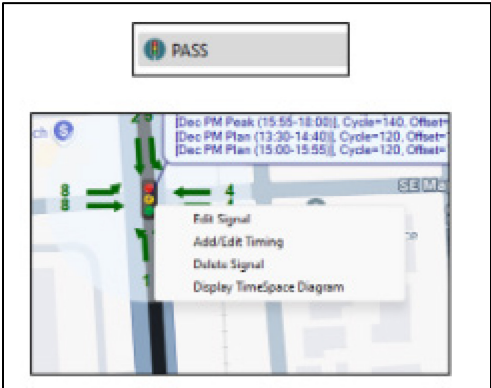
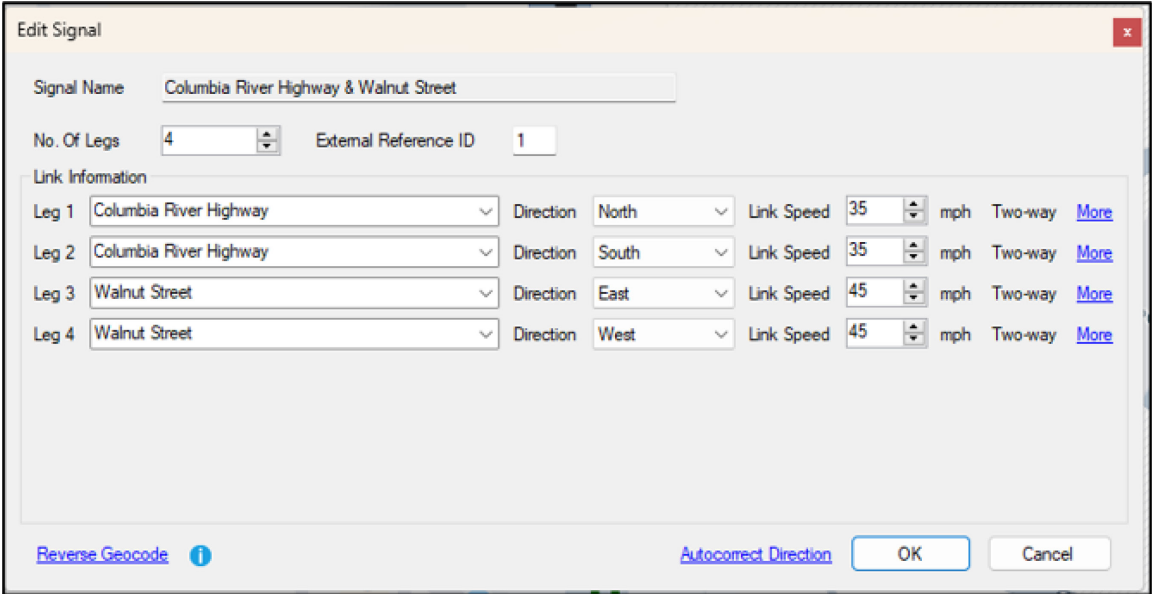
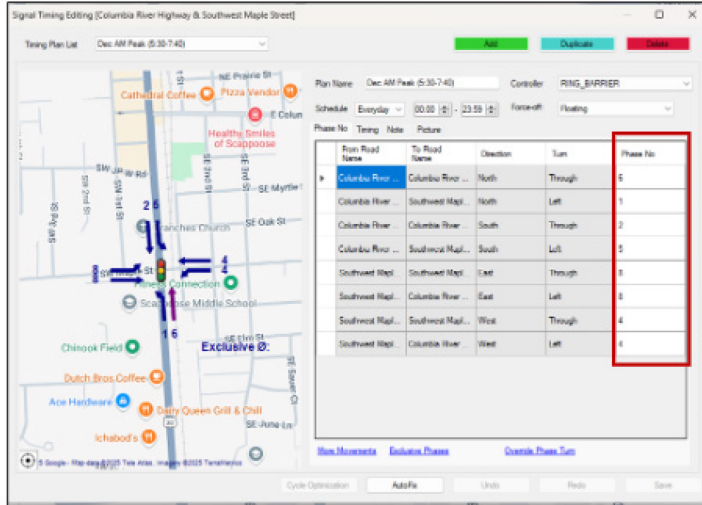

Figure 42: Opening PASS
Figure 43: Editing Signal
Figure 44: Modifying Phase Numbers in PASS
and click edit signal as shown in Figure 42. Repeat this step for all intersections under consideration.
- ii) Users can modify direction and link speeds by clicking on the “Edit Signal” dropdown shown in Figure 42. Figure 43 shows the pop-up window where the user can modify directions and names accordingly. “Signa Name” is automatically updated according to the leg names.
- iii) Signal timings can be modified by clicking on “Add/Edit Timings” as shown in Figure 42, and a new window will appear. In this window, phase numbers and timings can be modified as shown in Figures 44 and 45.
- i) Go to “Controller” → “Scheduler Configuration” → “Schedules” → Select the desired schedule and disable other schedules. In OSU’s experience, we only used Schedule 40 and named it “Schedule 40 – Test”. See Figure 44 for an example.